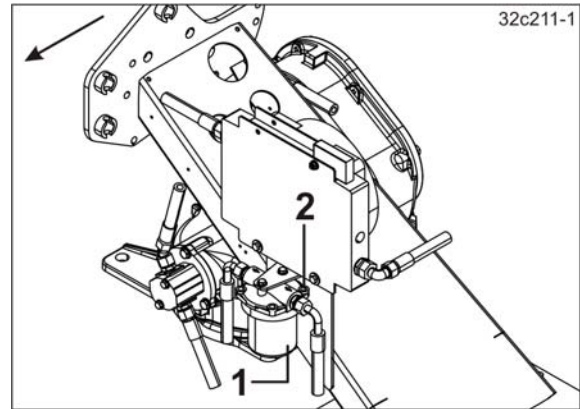

Fig. 181
1. Remove the oil filter cartridge (Fig. 181/1).
- 1.1 Undo the screws (Fig. 181/2).